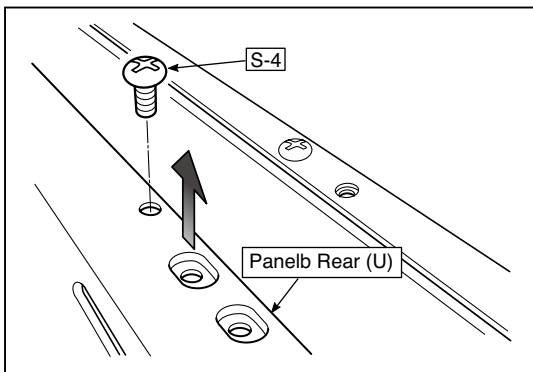

Fig.23
1. Remove the "S-4" screw shown in the figure 23 and then remove the Panel Rear (U).